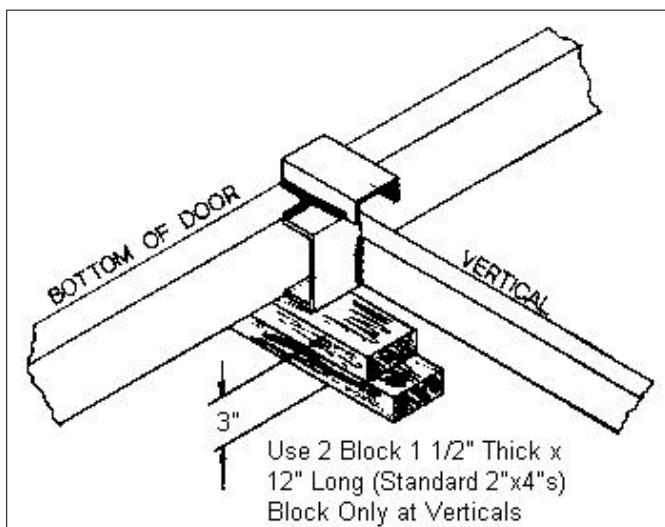

Figure 38 Blocking bottom of door for proper height
Block bottom of door 3" above finished floor. Block only where door has vertical members. Two (2) standard 2 x 4s stacked on top of each other about 12-14 inches long work well. The number of hinges on the top of the door is a good indication of how many places it should be blocked at the bottom. **SEE Figure 38.** When blocking door with bottom truss be careful not to put spacers on any weldments causing door to be higher than 3"